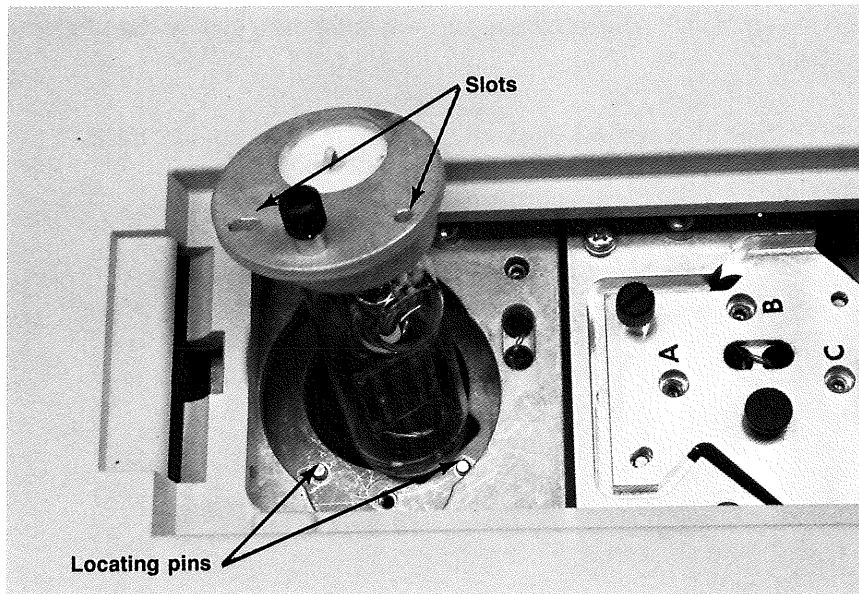

Figure 8-5.
6. Push the cable back into the source mounting area. Position source in the bracket so that the top of the source is seated on the two locating pins. See Figure 8-5.